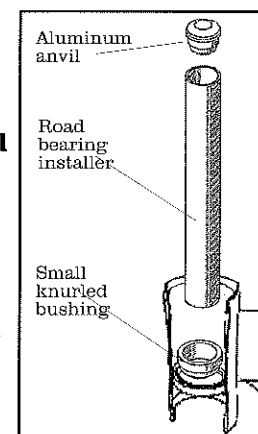

Fig. 25
8. Insert the **small knurled bushing** into the headtube (Fig. 25).